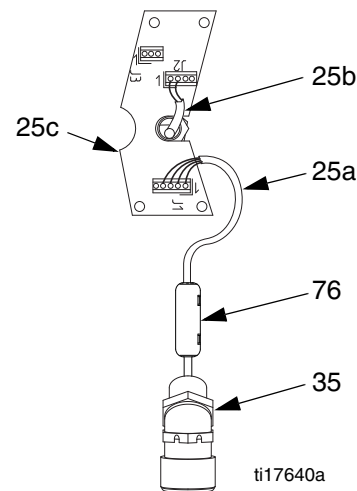
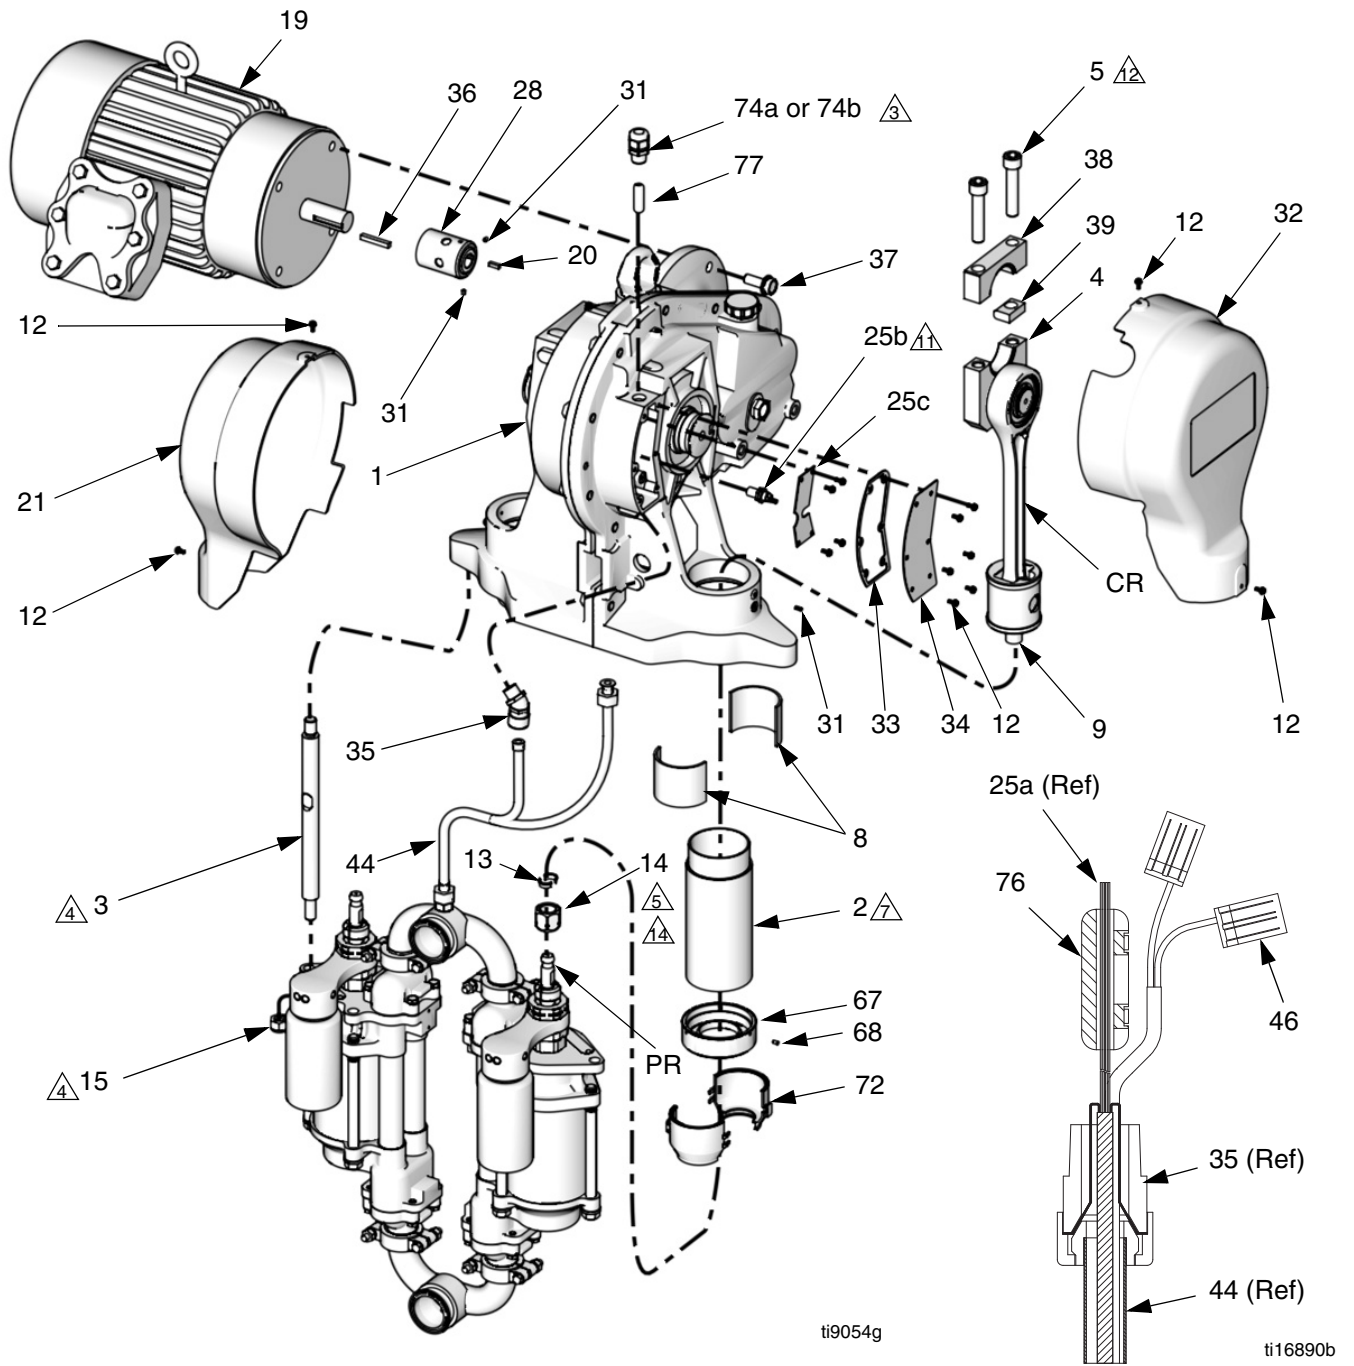

FIG. 27. Circuit Board Wire Connections
FIG. 28: Gear Reducer Replacement
5. Lift the motor (19) into position. Align the key (36, FIG. 28) on the motor shaft with the mating slot of the motor coupler, and the four mounting holes with the holes in the gear reducer (1). Slide the motor into place.
6. While one person supports the motor (19), install the screws (37). Torque to 75-80 ft-lb (102-108 N•m).
1. Jog the motor to bring the lower on the side opposite from the motor to the bottom of its stroke. This provides access to the coupling nut (14).
4. See FIG. 28. Remove the shields (72). Disconnect the drive linkage. See steps 4-11 on pages 24-25.
8. Remove the motor (19), see page 28.
9. See FIG. 28. Remove the screws (12), circuit board cover (34), and gasket (33). Retain the cover and screws. Discard the gasket.
- a. See FIG. 27. Disconnect the transducer cable (25a) from J1 on the circuit board (25c). Remove and retain the ferrite (76).
- c. Disconnect the IS circuit field wires from J2 and J3 on the circuit board, and from the two terminal blocks (46). Disconnect the position sensor wires from the two terminal blocks. Retain the terminal blocks.
- e. Unscrew the conductive strain reliefs (74a and 35) from the gear housing. Pull the 45° strain relief (35) and the transducer conduit out of the housing. Do not disconnect the transducer from the outlet port (P).
- f. Disconnect the position sensor and attaching parts from the gear housing (1). See page 22. Be sure to remove the position sensor adapter (78). Retain these parts.
11. Unscrew the locknuts (15) from the tie rods (3). Remove the entire fluid section. Unscrew the tie rods (3) from the gear housing.
12. See FIG. 28. Remove the setscrew (31). Unscrew the slider cylinder (2) from the gear reducer.
2. Install the motor (19), see page 31.
3. See FIG. 28. Screw the slider cylinders (2) into the new gear reducer (1). Torque to 15-20 ft-lb (21-27 N•m). Install the setscrews (31). Torque to 30-35 in-lb (3.4-3.9 N•m).
4. Screw the tie rods (3) into the gear housing. Torque to 50-60 ft-lb (68-80 N•m).
5. Orient the lowers (22) to the gear reducer (1) as shown. Position the lowers on the tie rods (3). Screw the tie rod locknuts (15) onto the tie rods. Torque the locknuts to 50-60 ft-lb (68-80 N•m).